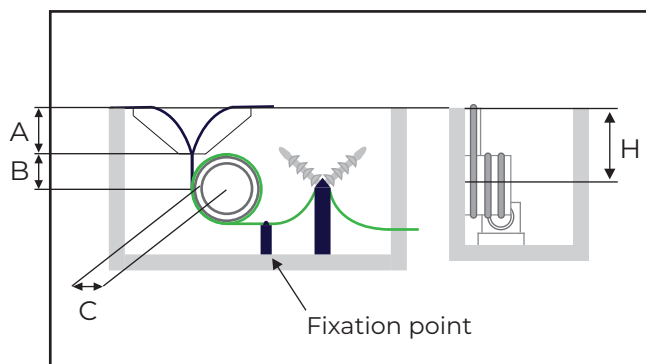

Figure 1
- 2. Securing the cable in the center feed:** The basic purpose of the strain relief drum is to absorb the tensile forces that occur over as long a cable length as possible in order to prevent cable damage or failures due to a clamping point. After  $2\frac{1}{2}$  turns of the cable on the strain relief drum, it can be assumed that the cable is free to move and can be guided using a clamp. (see Figure 1)